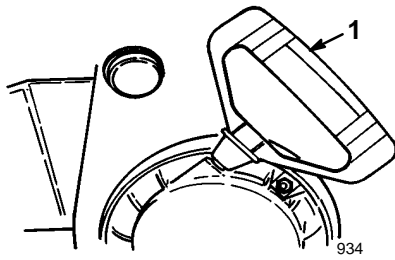

Figure 21
- **Recoil Starter** (Fig. 21)—The recoil starter is on the back side of the engine. Pull the recoil starter to start the engine.
7. Grasp the recoil starter handle (Fig. 21) and pull it out slowly until positive engagement results; then pull the handle vigorously to start the engine.